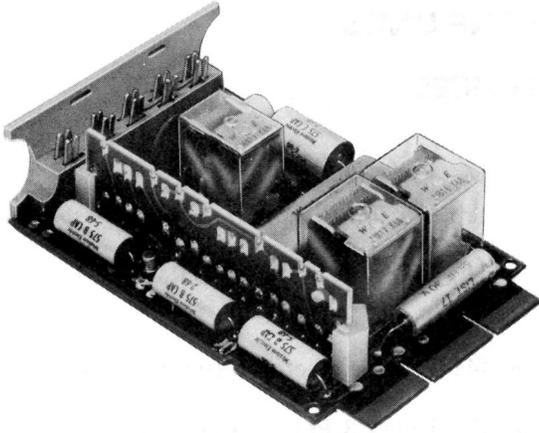

Fig. 1—Typical 4-Inch Key Telephone Unit
1.01 This section provides schematic information for the 400-series key telephone units (KTUs) which provide talking circuits and control and signaling functions between telephone sets in a 1A2 key telephone system (KTS) (Fig. 1 and 2).
one end of which is equipped with contacts. A 4-inch board may have 18, 20, or 40 contacts; an 8-inch board will have 80 contacts (requiring two vertical 40-pin connectors). The circuit boards plug into mating connectors in key service units, panels, or apparatus mountings. Wiring from the connectors will be dedicated or nondedicated leads. Dedicated leads are those that normally appear on the same contacts of all KTUs, such as supply voltages and grounds, and are normally factory wired. Nondedicated leads are those whose designation and function vary and are made available for installer connections. Typical 4- and 8-inch KTUs are shown in Fig. 1 and 2.